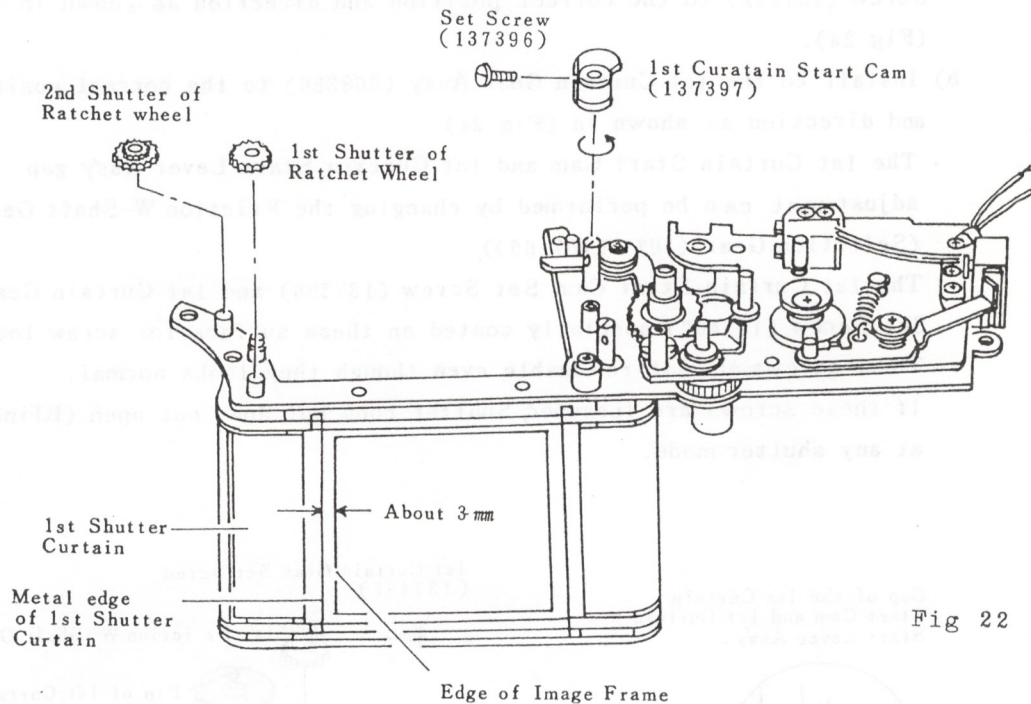

Fig 22
- c) Install to the Ratchet Wheel (137488×2) to the correct position and direction as shown in (Fig 22)
- d) Fix ④② the Ratchet Wheel Spring (137490) and ④① E Ring (66172024).
- f) By turning the 1st Shutter Curtain Shaft with a screwdriver (Counter-clockwise) in the direction of the arrow, then make sure the metal edge of the 1st Shutter Curtain is in position when installing the 1st Curtain Start Cam (137397) and 1st Curtain Start Cam Set Screw (137396) to the correct position and direction as shown in (Fig 22).
- h) Fix the respective parts ① ~ ⑧ shown in (Fig 22) in numerical order.
(4) Shutter Magnet Position Adjustment